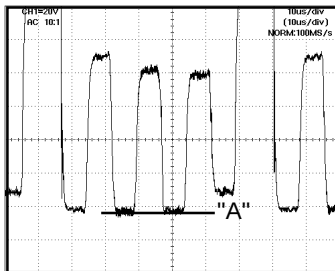

Fig. 2-3
4. Press the VOL. UP/DOWN button on the remote control until the section "A" becomes as straight line **(Refer to Fig. 2-3)**